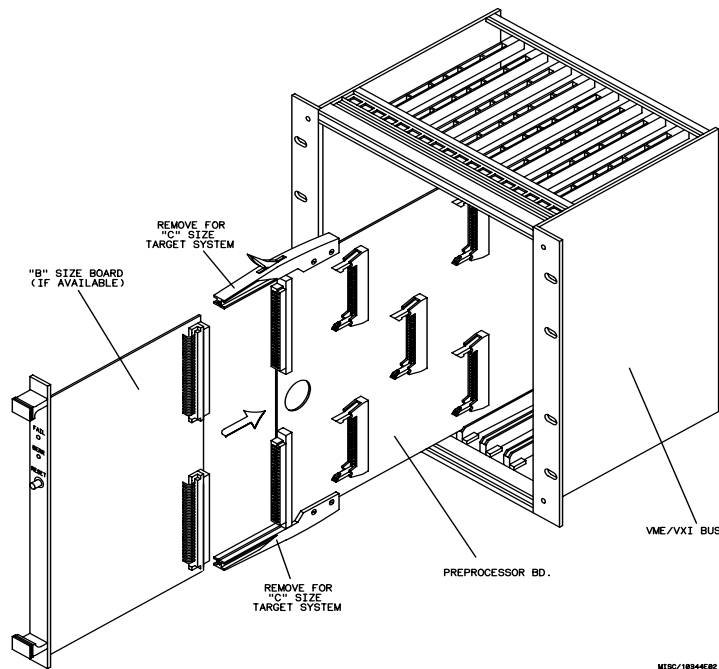

Figure 2-3 Installing the FS3100 Board
4. If you are installing the Analysis Probe interface board into a “C” size target system, remove the two board supports on the Analysis Probe interface board (see figure 2-3).
2. If you are installing the Analysis Probe interface board into a "C" size target system, remove the two board supports from the Analysis Probe interface board (see figure 2-3).
3. Align the FS3100 Analysis Probe Interface board with the appropriate slot on the target system, and plug the board into the connectors (see figure 2-3).
4. If the FS3100 Analysis Probe Interface board is being used as an extender board in a "B" size target system, align the appropriate VME/VXI board with the slot on the end of the FS3100 Analysis Probe Interface board. Then plug the VME/VXI board into the connectors on the FS3100 Analysis Probe Interface board (see figure 2-3).